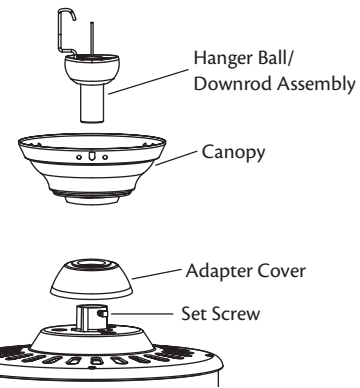

**Figure 9 - Installing the ceiling plate**
- Place a flat washer on each of the two 3" screws and pass the screws through the slotted holes in the ceiling plate as shown in Figure 9.